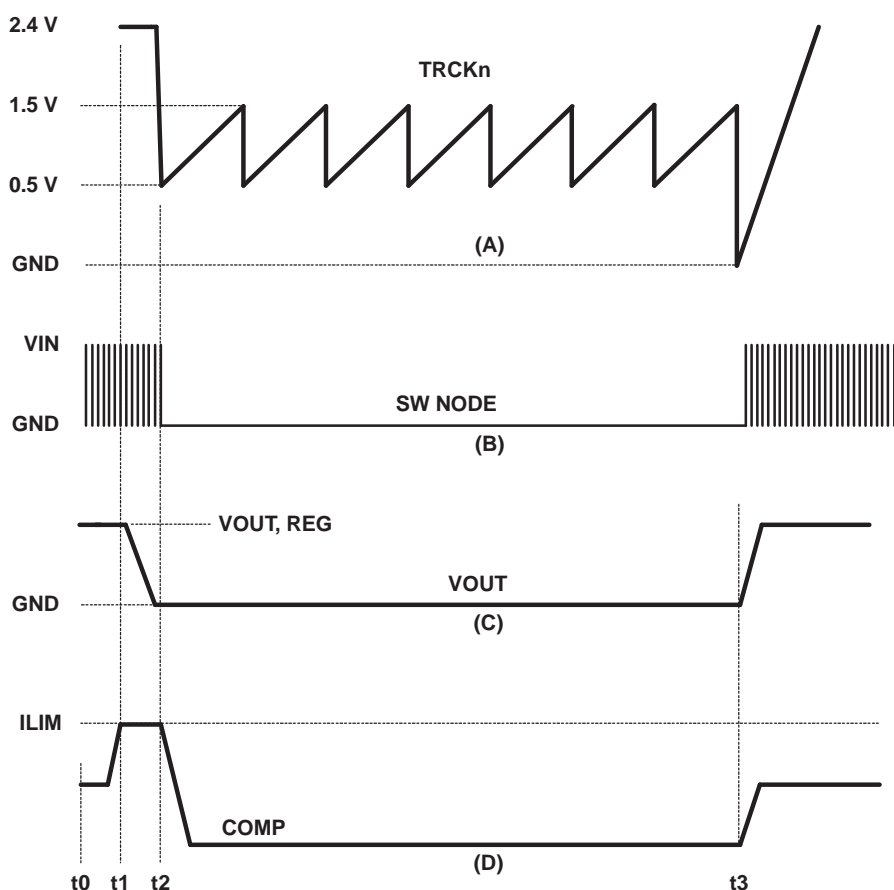

Figure 36. Hiccup Mode and Recovery
To reduce the input current and component dissipation during on overcurrent event, a hiccup mode is implemented. Hiccup mode refers to a sequence of 7 soft-start cycles where no MOSFET switching occurs and then a restart is attempted. If the fault has cleared, the restart results in returning to normal operation and regulation. This is shown in Figure 36.
In Figure 36, normal operation is occurring between t0 and t1 as shown by V_{OUT} being at the regulated voltage, (C) and normal switching on the SW NODE (B) and COMP at its nominal level, (D). At t1, an overcurrent load is experienced. The increased current forces COMP to increase to the ILIM level as shown in (D). If the COMP voltage is above the ILIM voltage for 7 switching cycles, the controller enters a hiccup mode. During this time the controller is not switching and the switching MOSFETs are turned off. The TRKx voltage goes through 7 cycles of charging and discharging the soft-start capacitor. At the end of the 7 cycles the controller attempts another normal restart. If the fault has been cleared, the output voltage comes up to the regulation level as shown at time t3. If the fault has not cleared, the COMP voltage again rises above the ILIM voltage and the hiccup mode repeats.